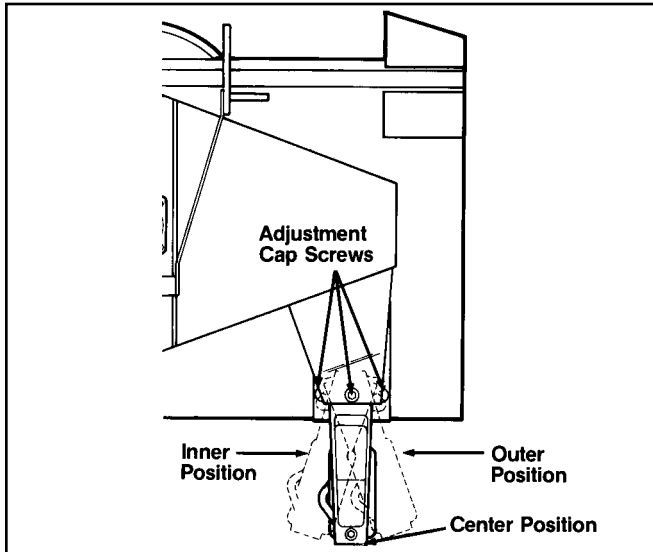

Figure 3-9
**Normal mowing position** is with gauge wheels in outer position. This gives greatest amount of support to sides of mowing deck and helps prevent scalping. In tall grass, this outer position will keep tire from "laying down" grass, causing skipping. **Center position** is 4" closer to center of mowing deck than normal; **inner position** is an additional 4" closer to center (Fig. 3-9). To adjust: